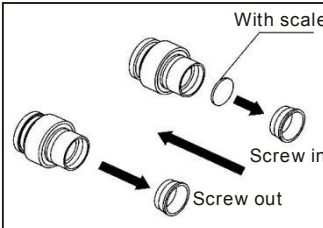

Fig.5
- (1) Turn and remove the mounting ring from the eyepiece.(Fig.5)
- (2) Clean the eyepiece micrometer and mount it to the mounting with the inscription side downward.
- (3) Gently twist the mounting ring with the eyepiece micrometer into the eyepiece till tightening securely.
- (4) To remove the eyepiece micrometer, take down the mounting ring by twisting and take out of the micrometer, and then wrap it.